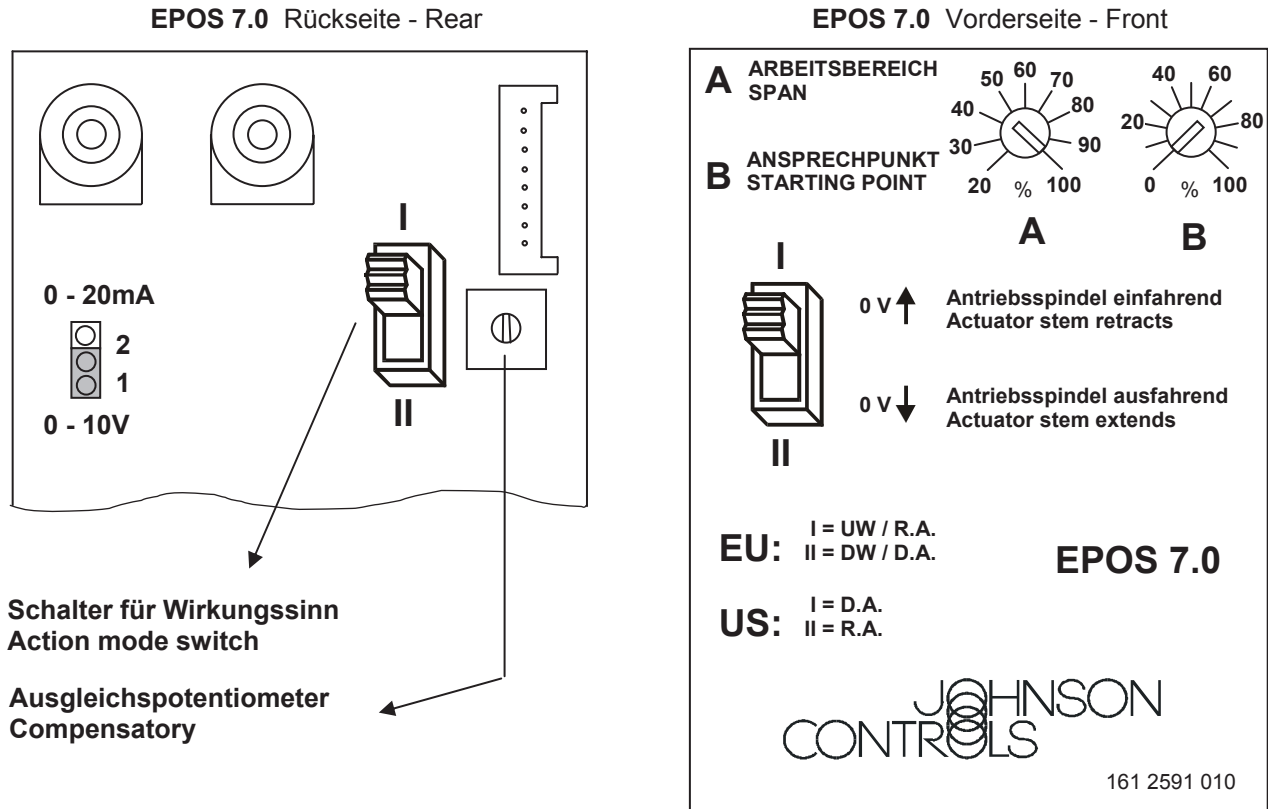

Fig. 1
- Jumper position 1 for: 0 –10 V, see fig 1
- Jumper position 2 for: 0 –20 mA, see fig 1
- ◆ Action mode switch in position II, Span at 100% and start-point at 0%, turn compensatory potentiometer in the anti-clockwise direction to stop, see fig.1.
- ◆ If another action mode is required, the action mode switch must be moved to the corresponding position, see Fig. 1.